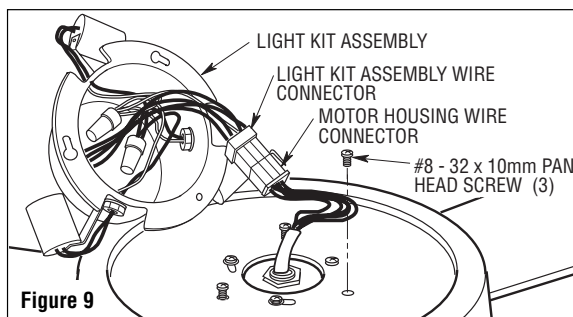

Figure 9
11. Engage the connector of the light kit assembly with the motor connector (Figure 9). The two connectors are keyed and color-coded and must be mated correctly (color-to-color) before they can be engaged. Make sure the connector latch closes properly.
12. Remove one #8 - 32 x 10mm pan head screw from the lower housing (reserve for later use). Loosen the other two screws to assemble the light kit assembly to the lower housing (Figure 9).